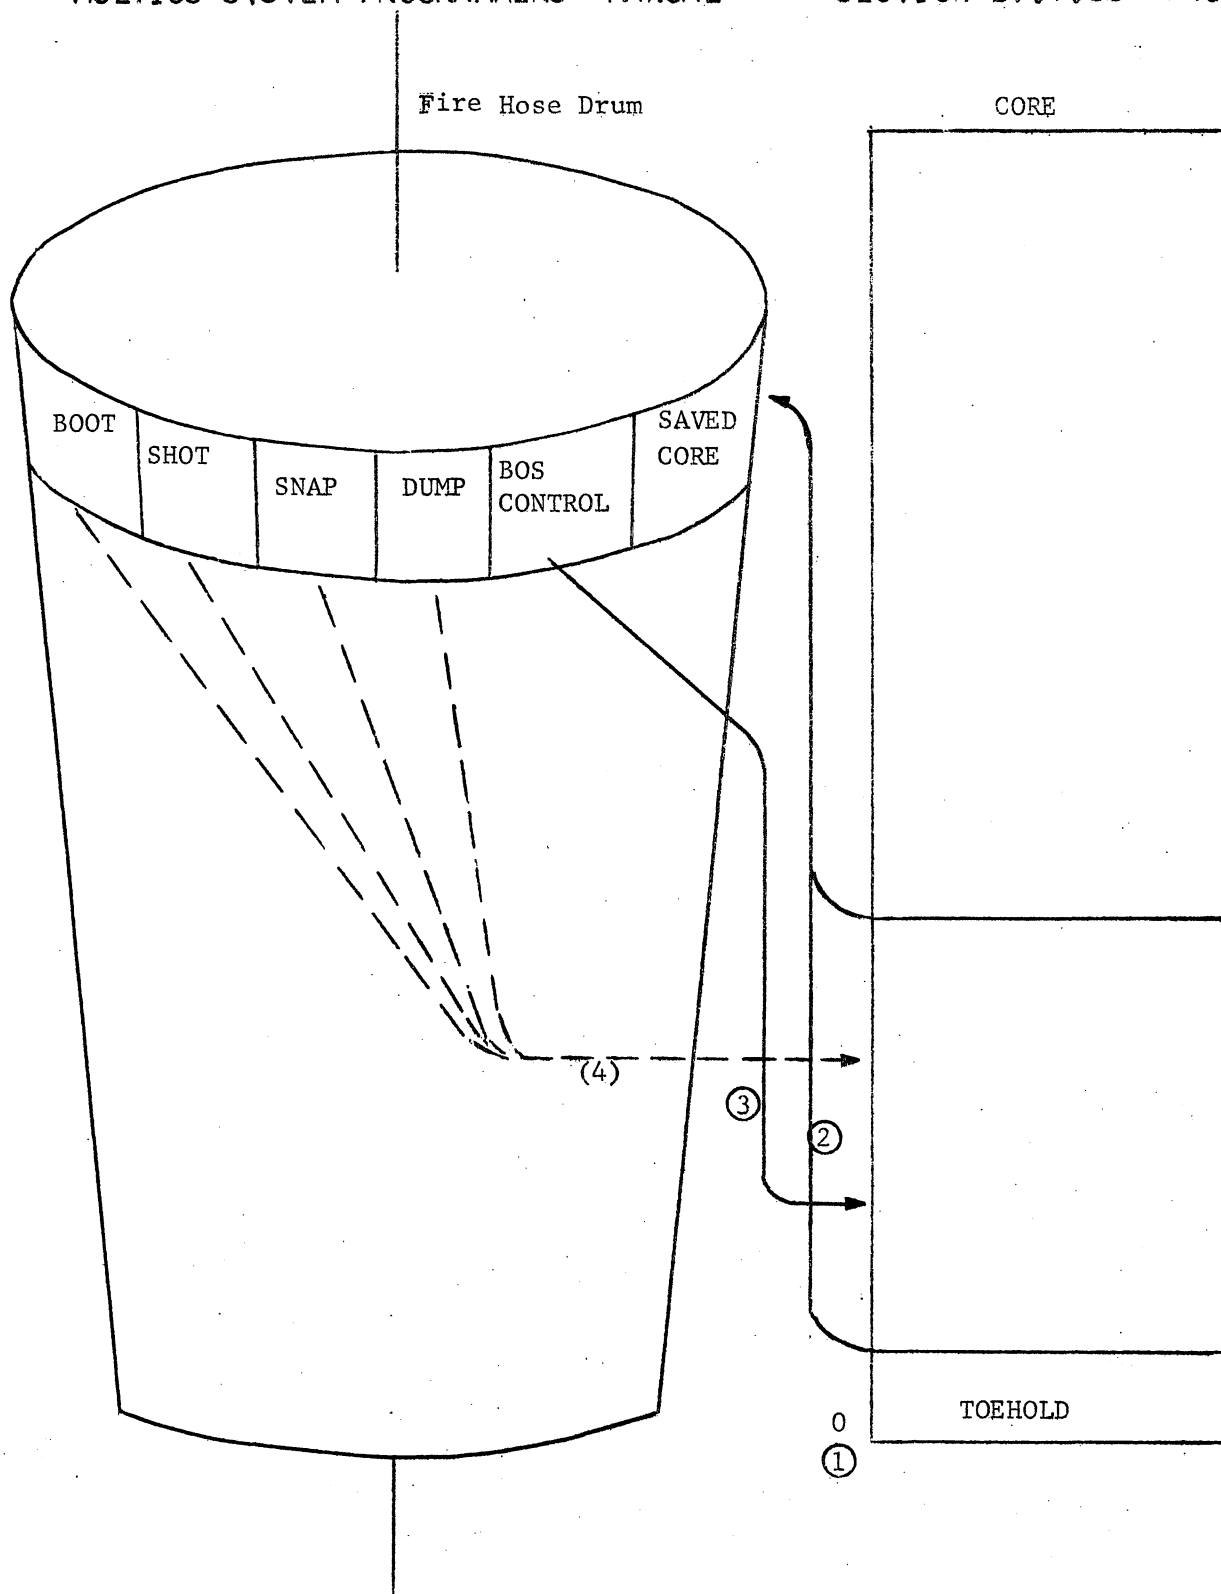

Figure 1, BOS Operation (Circled numbers indicate sequence of operations)
BOS consists of three parts: the toehold, a 200 (8) word program permanently in core at location 0; the control program, which is kept on the firehose drum when not active; and the command programs, which are also kept on the firehose drum when not in use. While Multics is running, only the toehold is in core. If a programmer decides to take a snapshot or core dump, or in general to exercise any of the BOS functions, he enters BOS by a manual transfer at the 645 processor panel. The toehold then saves the machine state and brings in the control program in another drum area. BOS then accepts commands from the operator's console or the card reader. The commands may be requests to the control program directly or calls to BOS command programs. If a command program is requested, it will be brought in from the drum and executed. When programmer intervention is completed, BOS may be used to initiate a new bootload. (It is also possible to continue the run which was interrupted). Figure 1 presents an abstract view of the steps involved in invoking BOS.